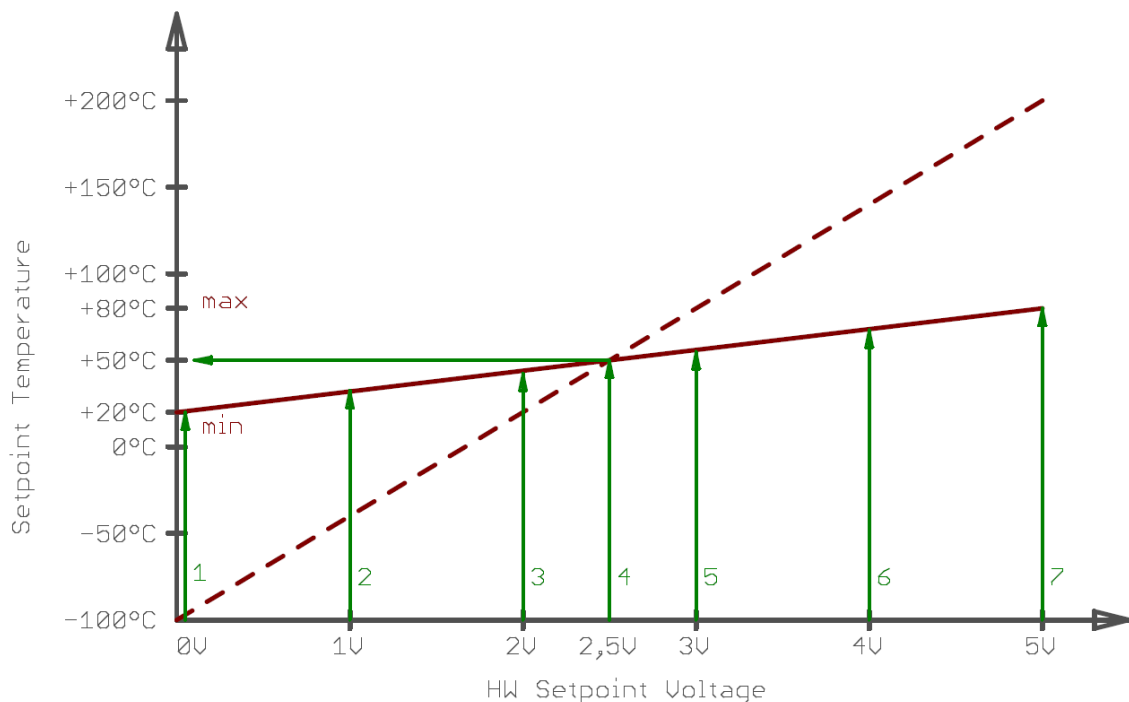

Fig. 27: Slope transformation mode transfer function
In this mode, the relationship between the HW-Setpoint-Voltage and the temperature setpoint is still linear but has a different slope than the basic transfer function. Now a HW-Setpoint-Voltage of 0 V leads to a setpoint of min. temperature and 5 V lead to a setpoint of max. temperature (see solid red line in Fig. 27 below). This means, the complete input voltage range is used.
**Example (see Fig. 27 above):**
For purpose of illustration, the basic transfer function is also shown in Fig. 27 (dashed red line). It is apparent, that the slope of the transfer function has changed, it is transformed to the actual min. and max. temperature values.